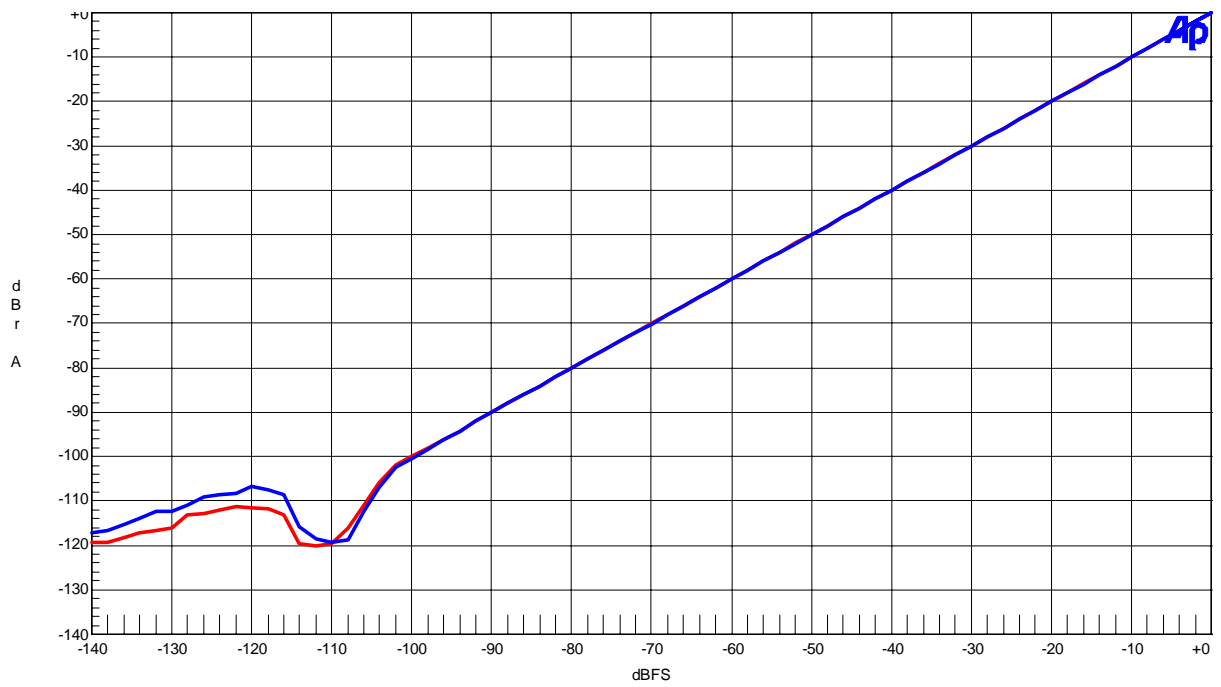

Figure 24. Linearity (Input Frequency=1kHz)
- Figure 24. Linearity (Input Frequency =1kHz)